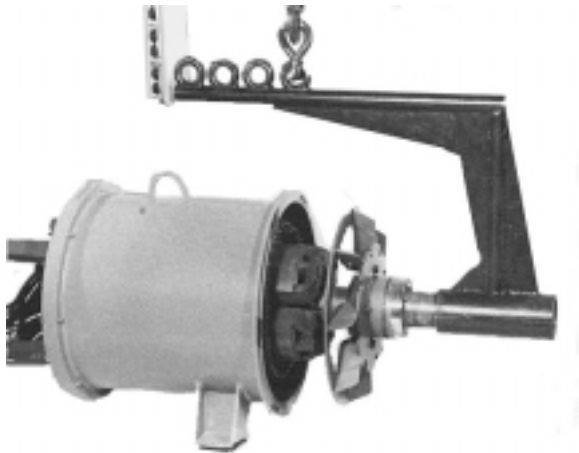

Figure 6-54
2. Using a rotor lifting fixture and a suitable hoist, carefully install the rotor assembly into the main stator assembly through the drive end. (Figure 6-54.) Carefully feed the rotor leads through the front-end bracket shaft hole as the rotor is installed.